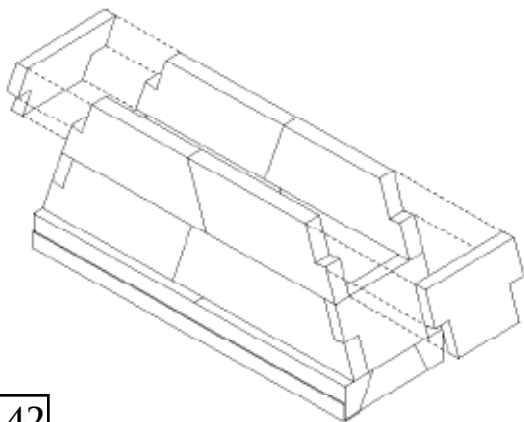

FIGURE 42
**Step 19:** Place one of the angle cut smoke dome top medium pieces at the front and one at the back of the first tier smoke dome so that they meet the smoke dome large (cut to  $49\frac{3}{4}$ " bottom length) already set in Step 11. (Figure 42)
**Step 20:** Set the smoke dome sloping side walls, part 34, in place between the front and back smoke dome arrangements at their proper locations at each end of the smoke dome. (Figure 42).